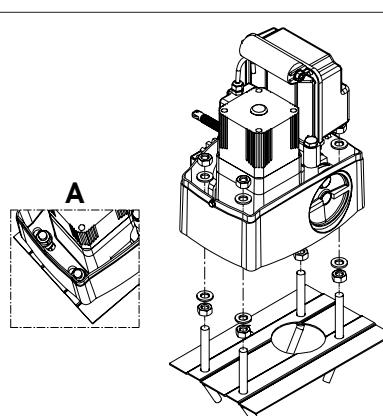

Fig.09
- Position the operator on the foundation plate, using the supplied washers and nuts as shown in Fig. 09. During this operation, route the cables through the appropriate openings in the motor body (See Fig.01 ref.9). If necessary, the two holes can be joined using a hammer to obtain a wider space.